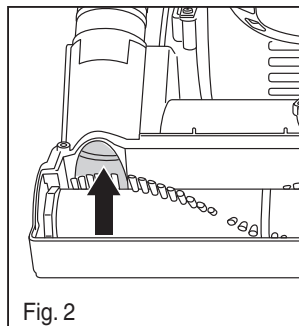

Fig. 2
- 2) To check base hose, remove 2 screws and brush roll cover. Use finger to clear blockage (Fig. 2).